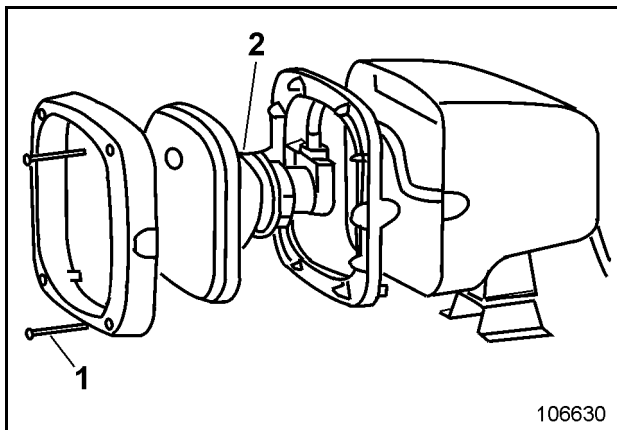

Fig. 3-71
- Remove four screws (1, Fig. 3-71) and withdraw the reflector (2) from the projector housing.